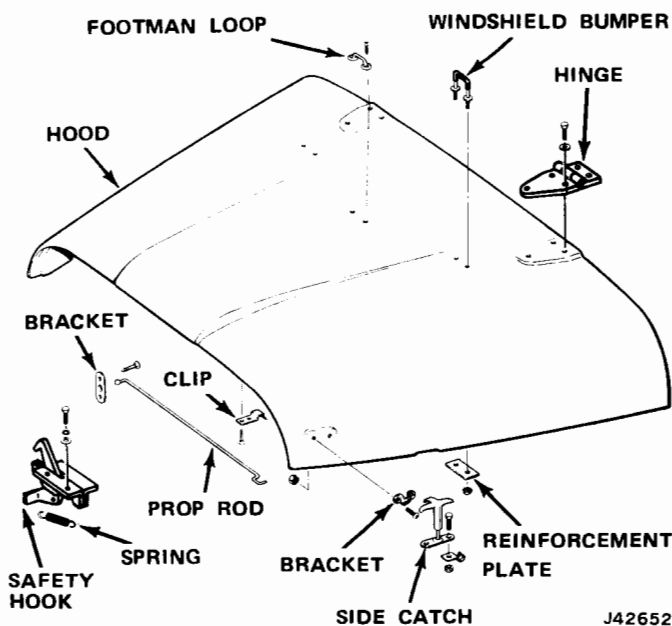

Fig. 14-14 Hood and Related Parts—CJ Models
- (1) Mark position of hinges on their respective mounting panels before removing hood.
- (2) Detach hood panel from hinges by removing attaching bolts, lockwashers, and flat washers.
- (3) Disassembly of CJ hood is accomplished by removing hood prop rod, hood prop rod retainer clip, hood side catch brackets, footman loop, and windshield bumpers (fig. 14-14).